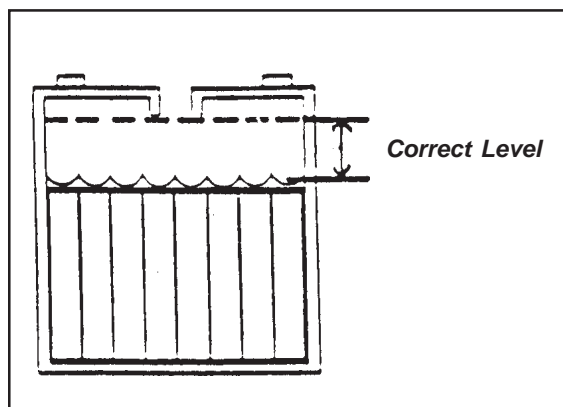

Figure 14
1. Keep the electrolyte at the correct level. The correct level is between 1/4" (1/2 cm) below the bottom of the tube in each cell and above the tops of the plates. Check the level of the electrolyte each time you charge the batteries. See figure 14.